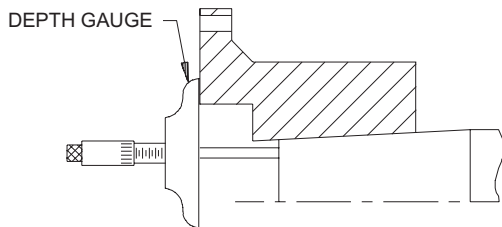

Figure 1. Measuring Hub Overhang
- 2.4 Clean the hub bore and shaft. For straight bores, proceed to step 2.6. For taper bores, mount the hub handtight on the shaft and lightly rap it with a soft mallet to establish the initial line-to-line fit. This is the START position. With a depth gauge, measure the amount the hub overhangs the shaft end and record this value. See Figure 1.
2.7 Place the hub in the proper position on the shaft. Hold the hub in place as it cools. For taper bores, verify the hub advance (see Figures 1 and 2) and install the shaft retaining nut. Remove the split collar from the shaft.